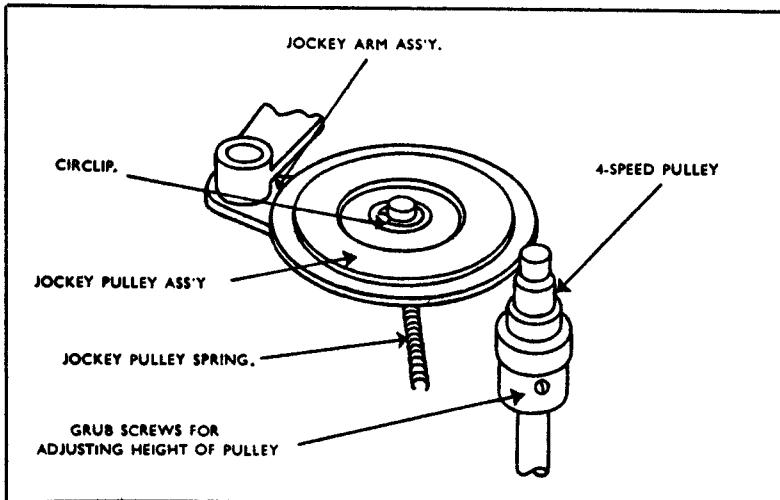

FIGURE 2.
- (1) Set the four speed knob at the 16-2/3 RPM position.
- (2) Slacken setscrews on the 4-speed pulley (Item 8M94) and adjust until the jockey pulley (Item 8M32) is engaged on the smallest pulley diameter just clear of the top step (see Figure 2).
- (3) Tighten setscrews.